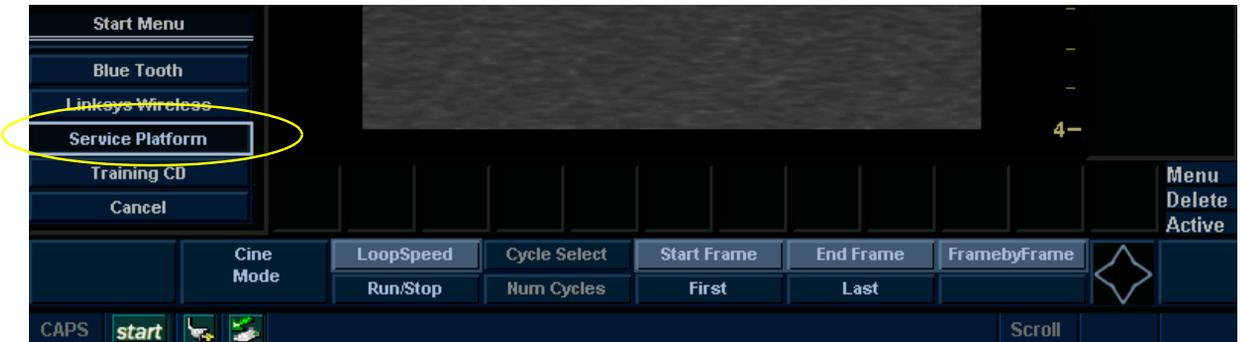

Figure 7-97
- 2.) Click **start** Icon, appears the selection menu, choose **Service Platform** icon in the bar, see Figure 7-97 on page 7-8